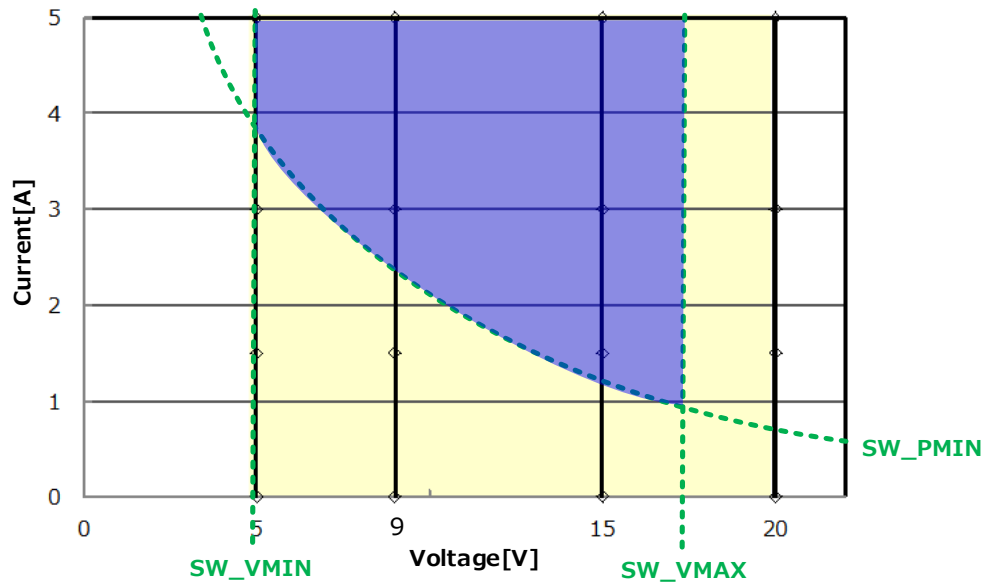

Figure 9. USB PD Contractable Range
3. Set SW_VMAX, SW_VMIN and SW_PMIN according to required PD contract. Please refer to Figure 9 for further information.
This EVK can set the range of USB PD contract automatically according to SW_VMAX, SW_VMIN, SW_PMIN DIP switch settings. The EVK can make a contract with a PD source that has a range within the "USB PD Contractable Range" shown in Figure 9. The EVK requires a power cycle to update the range assigned by SW_VMAX, SW_VMIN, and SW_PMIN. A power cycle occurs by both disconnecting from a Source device and losing power from VSRC5V. If there is no VSRC5V, only disconnecting from a Source device is required
Figure 9 shows the specific range by SW_VMAX, SW_VMIN, and SW_PMIN that allows USB PD Contract.
For example, if the EVK SW_VMAX is set to 12V and connected to the Source device specified in Figure 9, where the Source device does not have 12V as an option, then the contract with the EVK will be a PDO of 9V@3A.